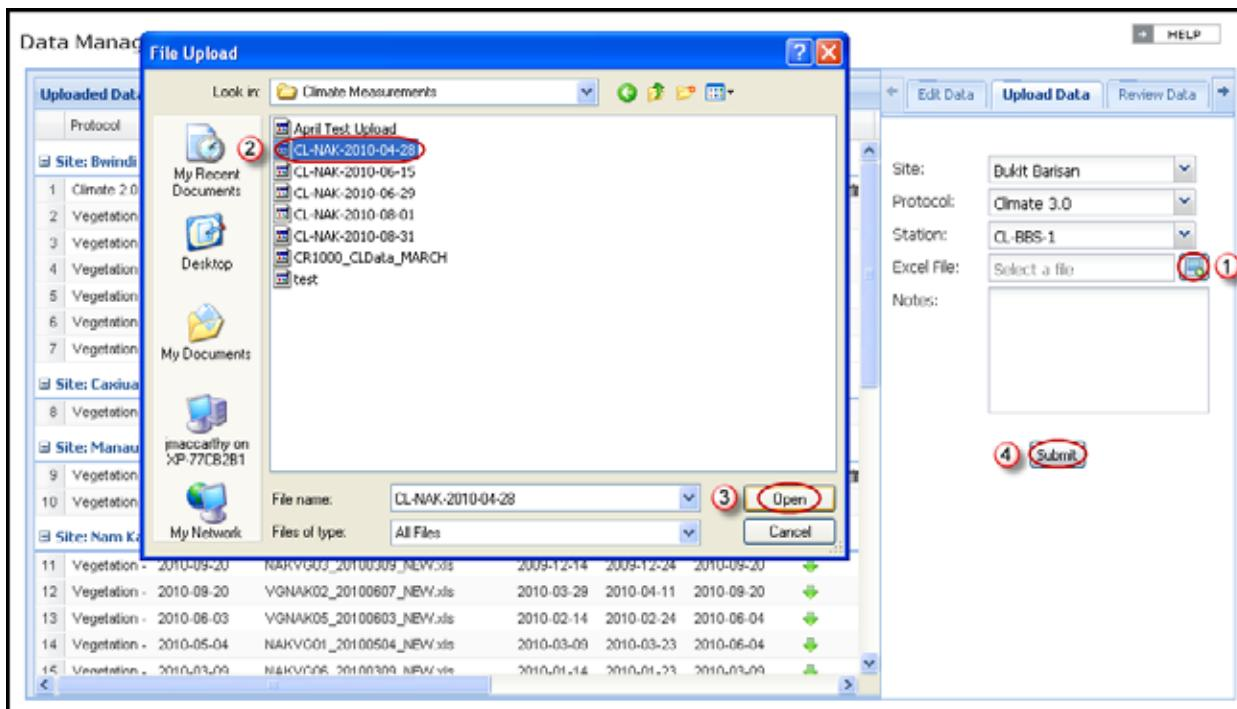

Figure 22. Screenshot demonstrating how to upload data in the “Upload Data” section of the Data Management Tool.
Note: Also, see **Step 9** in the Climate Data Management Tool Help (Appendix A.7) for more information and a detailed explanation of the uploading procedure. Figure 22 in Section 6.3.1 shows the process for uploading climate measurement data.
Note: Also, see **Step 9** in the Climate Data Management Tool Help (Appendix A.7) for more information and a detailed explanation of the uploading procedure. Figure 22 shows the process for uploading climate measurement data.
- d) Click on the **Upload Data** tab on the right side of the screen (use the arrows on the right side of the screen if “Upload Data” is not seen initially) and enter the requested information using the drop down menus and text fields. See Figure 22 below.